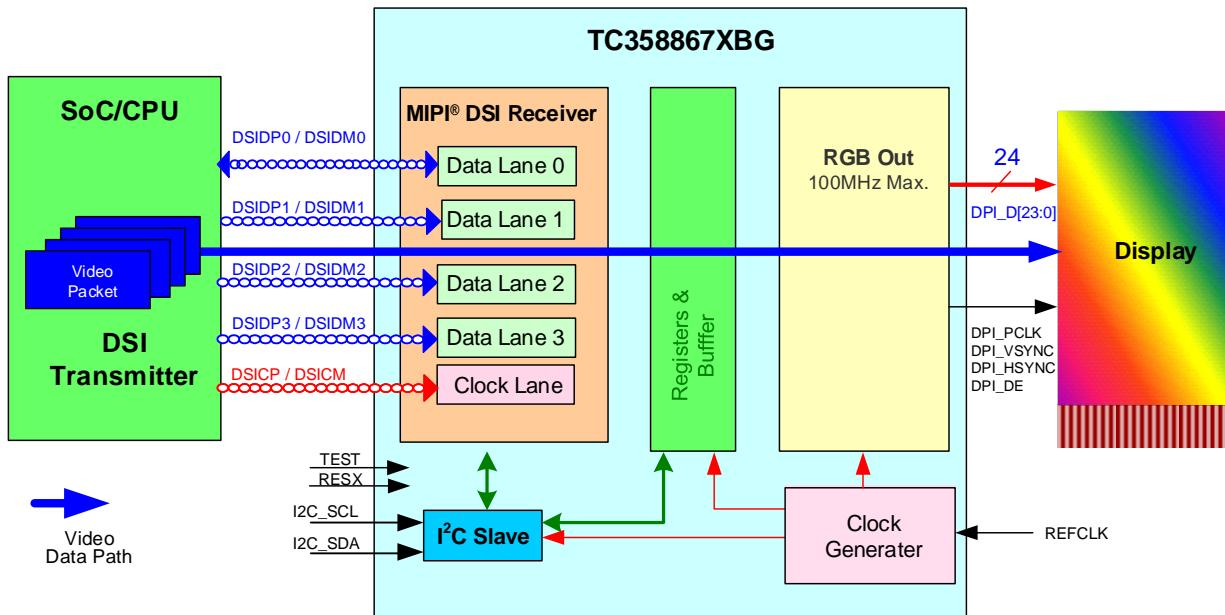

Figure 1.3 System Overview with TC358867XBG in MODE_S2P Configuration
- Mode_S2P: A system configuration where TC358867XBG may typically be used is shown in Figure 1.3. In this mode, DisplayPort™ output is not used and the chip rather behaves as a DSI to RGB convertor. In this system, TC358867XBG could be connected to a single display. In this configuration, the TC358867XBG can support displays with resolution up to WXGA (1280x800). Maximum output PCLK is 100 MHz. Video stream source is from DSI Host.